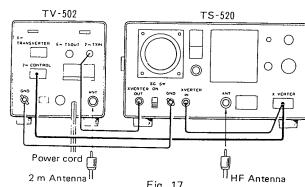

Fig. 17
- (1) Fig. 17 shows the method of connecting TV-502 to TS-520.